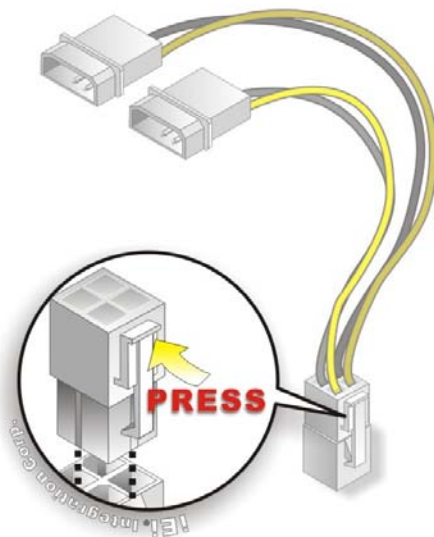

Figure 4-10: Power Cable to Motherboard Connection
Step 2: **Connect the Power Cable to the Motherboard.** Connect the 4-pin (2x2) Molex type power cable connector to the AT power connector on the motherboard. See Figure 4-10.